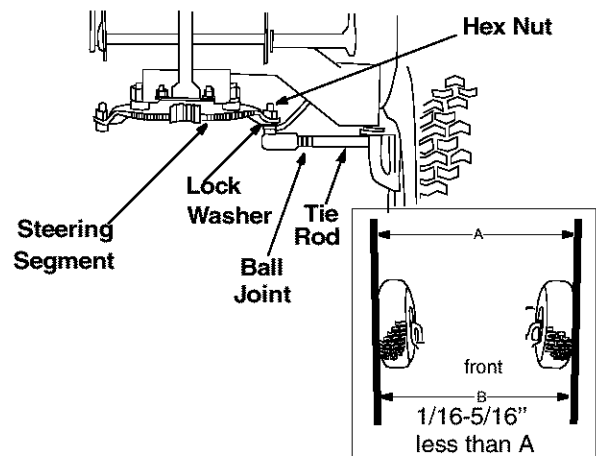

Figure 12
1. Remove the 3/8" hex nut and lock washer which hold the ball joint to the steering segment. See Figure 12.
2. Adjust the ball joint in or out until the wheels toe-in approximately 1/16-5/16" (Dimension "B" should be approximately 1/16-5/16" less than dimension "A"). See Figure 12.